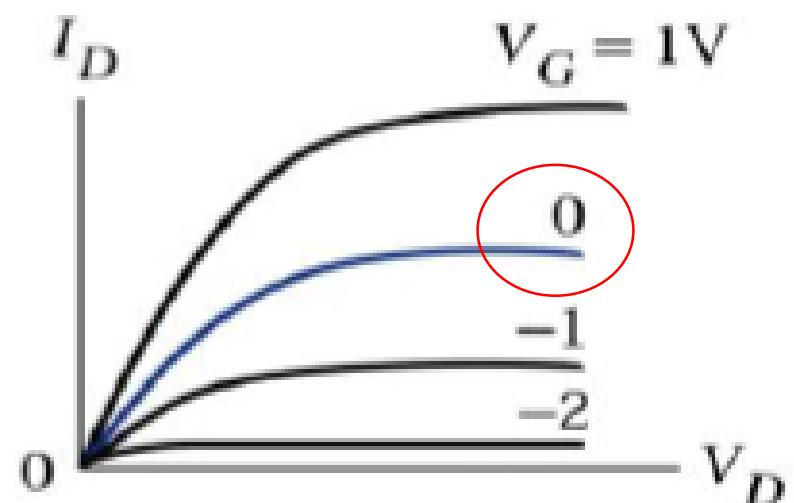

Figure 3.45 Depletion or Normally ON NMOSFET
- **Depletion mode MOSFET:** in **ON** state when $V_{gs}=0V$ (Figure 3.45). Hence, it is also called **Normally On** MOSFET.